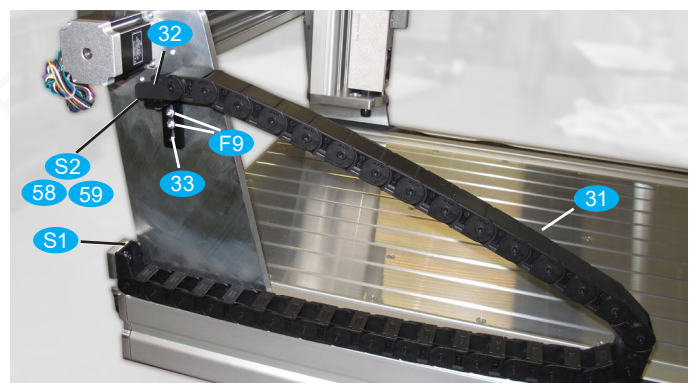

Fig. 37: Assembly of the drag chain for the Y axis
- Hang the Y-drag chain in the connection kit and fasten the free end to the rear face plate using the connection kit and countersunk screws **S1**, as shown in Fig. 37.